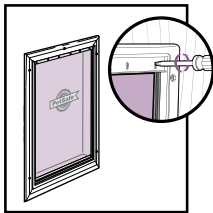

FIG. 13
1. Remove screws from the interior frame of the pet door (**Fig. 13**).